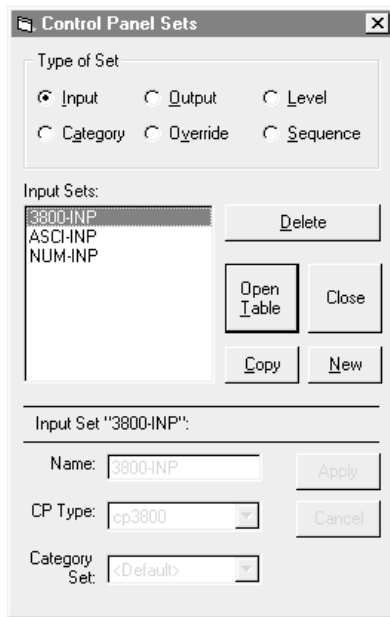

Figure 5–63.
1. On the main menu, click on “Jupiter” and “Control Panel Sets.” Then select “Input” (or “Output”). A menu similar to Figure 5–63 will appear.